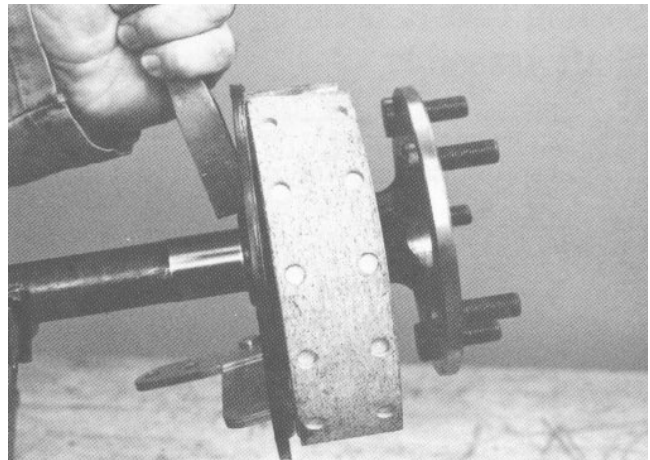

Figure 11
7. After drilling, put a chisel in position across the hole and strike sharply to break the ring. Replace with a new ring at time of reassembly (Fig. 11).